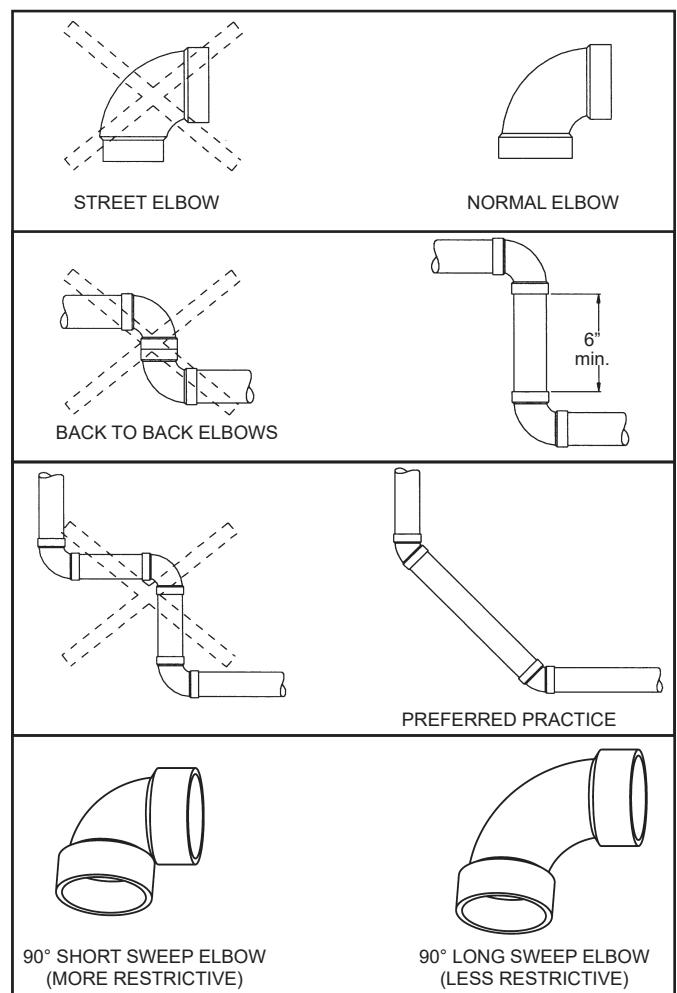

Figure 29.
**Note:** The information provided in Figure 29 is intended as a guideline for good vent installation practices only and is not intended to restrict venting options beyond those restrictions established by the current edition of the **"National Fuel Gas Code", ANSI Z223.1/NFPA 54** or any applicable local and state codes.
3. Avoid using 90° elbows “back to back” and do not use street elbows. Maintain a minimum 6" straight section between elbows. Closely coupled and short radius elbows reduce the venting capacity. Figure 29 shows examples of vent pipe connections.